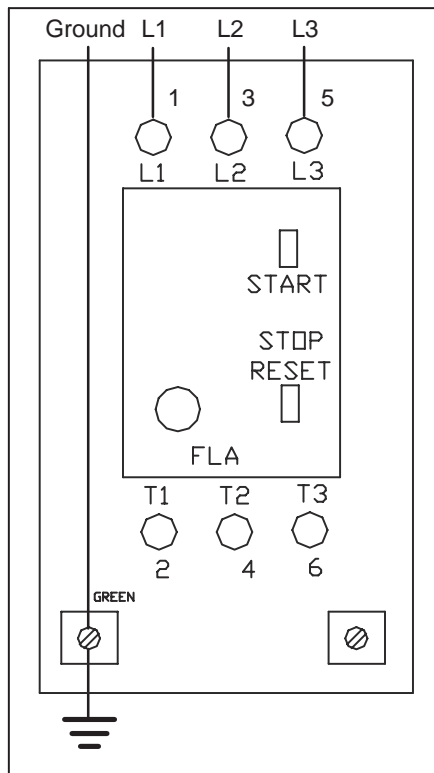

Figure 19
- For correct three-phase motor shaft rotation, connect line phase sequence L1, L2 & L3 to terminals as shown (Figure 19).
The motor ground wire is also attached to left terminal marked \perp (Figure 19).
- Attach ground wire to lower left terminal marked \perp (Figure 19).
- Attach ground wire to lower left terminal marked \perp (see Figure 19).